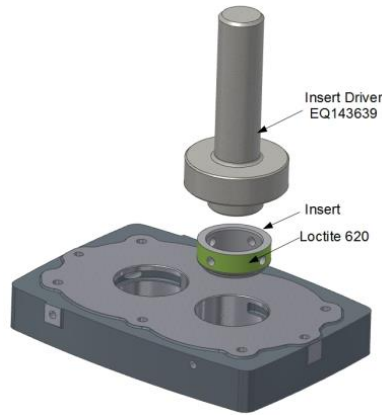

FIGURE 7-1 – INSTALL INSERT
1. Apply a light coating of loctite 620 to the outside diameter of 2 inserts (32). The wide face of the inserts must face the air side of the bearing housing (24). Position the holes in the inserts so that they are located at the 3, 6, 9, and 12 o'clock positions in the bearing housing bore. Support the bearing housing under the bearing bosses. Use a hydraulic press and insert driver tool (EQ143639) to install the inserts into the bearing housing from the air side. After they are installed ensure that the inserts are slightly below or flush with the air surface of the bearing housing. See FIGURE 7-1
- a. 1. For mechanical seal unit, apply a light coating of Loctite 620 to outside diameter of mechanical seal assembly (87) (containing metal cup and carbon). Support bearing housing under the bearing bosses. Using a hydraulic press and insert driver tool (EQ143639), press seal assemblies into respective bores (carbon side first) of bearing housing (24) from the air side. Repeat process for bearing housing integrated with air cylinder (22) and skip step 2.